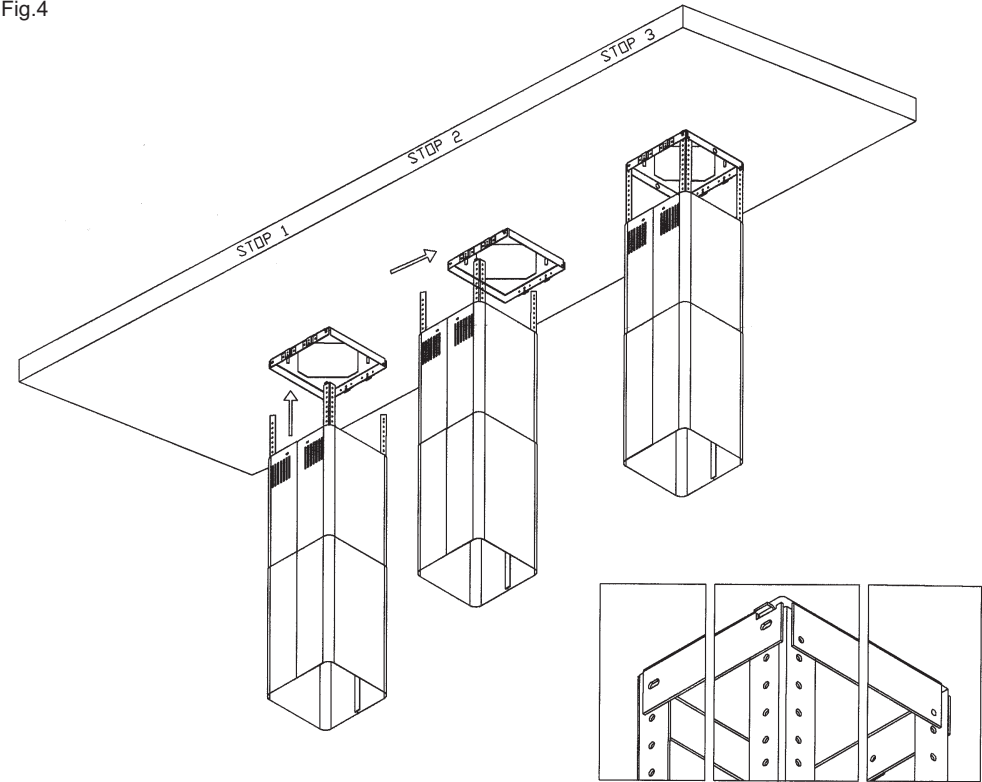
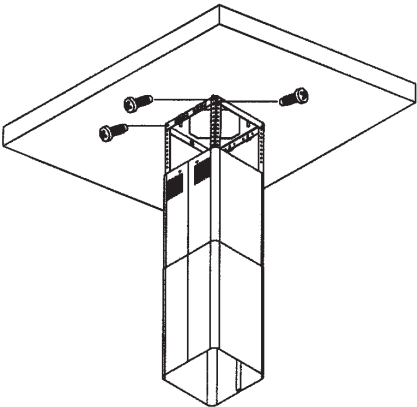

Fig.5
Fig.6
Before changing the light bulb, ensure that the appliance is not live (the switch should be in position 0 - OFF). Remove the metal anti-grease filters (Fig.5). Change the halogen light using a 230V halogen light, with an E14 coupling, max. 50W. Replace the metal anti-grease filters.
4. Fit 4 fixing screws one in each corner. See Fig. 5. Fit the glass onto the hood section using clamps provided (See Fig 6). Connect the plug and socket between the chimney and the hood section.